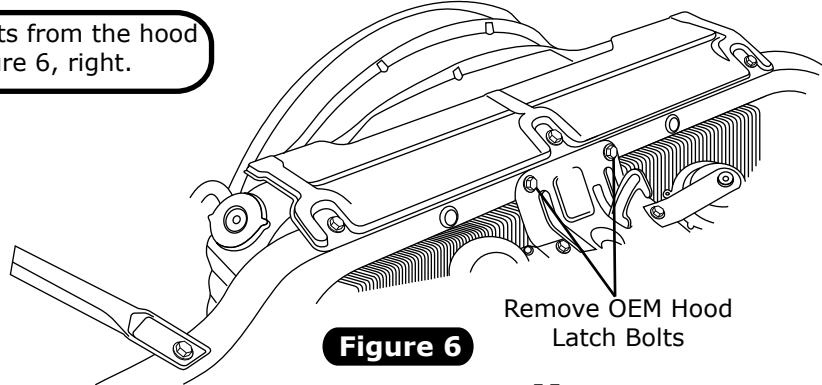

Figure 6
1. Remove (2) OEM hood latch bolts from the hood latch assembly as shown in Figure 6, right.